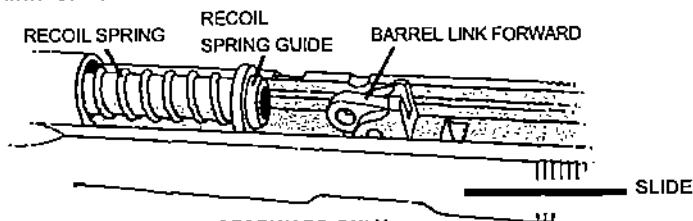

FIGURE 8 - BARRELLINK MUST BE FORWARD ONLY FOR BARREL TO BE REMOVED AND ASSEMBLED THROUGH THE SLIDE.
8. Lift recoil springs and guide and pull them rearward out of slide. (See Figure 8).
1. With slide upside down and barrel link forward, assemble barrel into the slide, as in Figure 8.